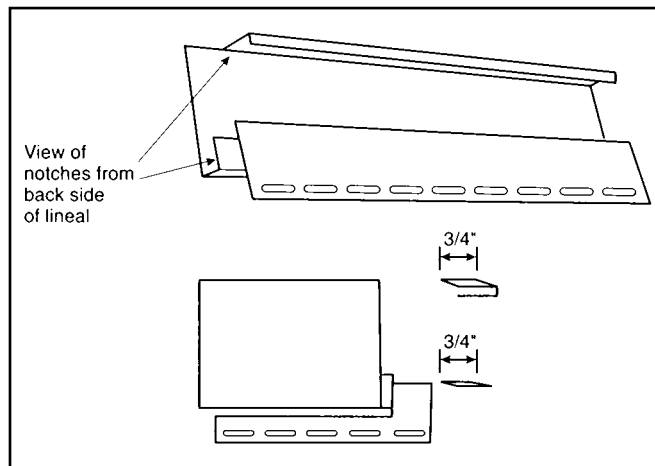

Fig H1
**STEP 9** Measure for the bottom lineal and again add 7" (3 1/2" for both ends). (Fig. H). As done with top lineal, remove at least 3/4" from the lineal pocket and locking leg from both ends of lineal. (Fig. H1).